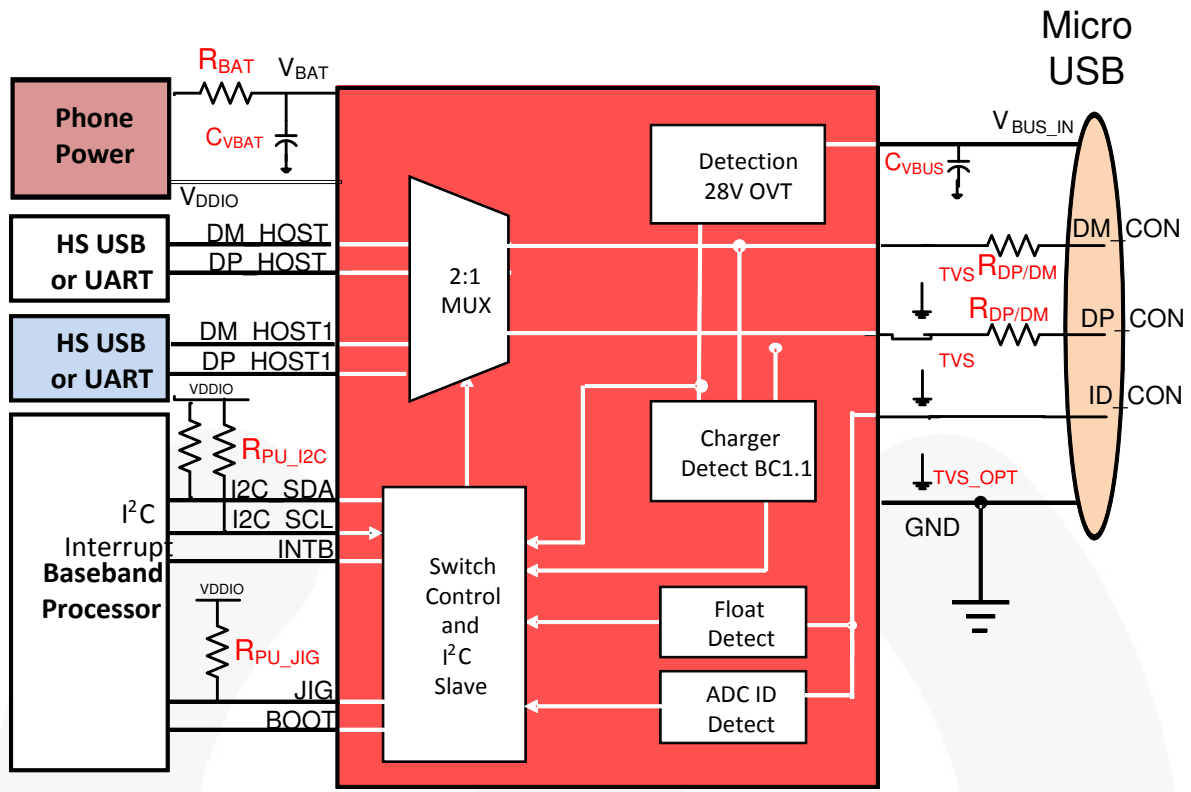

Figure 22. Reference Schematic
3. Add as large a decoupling capacitor as possible ( $\geq 1\mu\text{F}$ ) between the  $V_{BAT}$  pin and GND to shunt any power supply noise away from the FSA88x. Also add decoupling capacitance at the PA (*see the reference application schematic in Figure 22 for recommended decoupling capacitor values*).